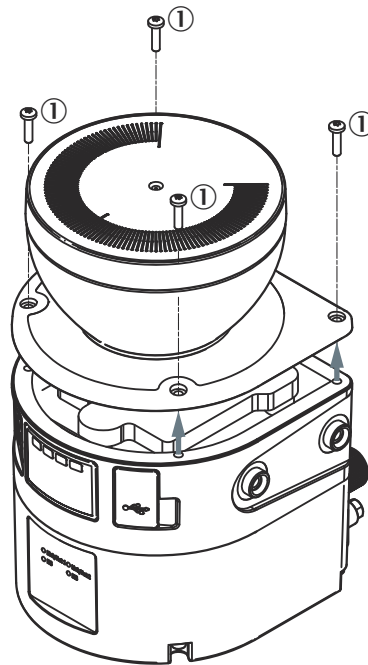

Figure 75: Fixing screws for the optics cover
13. Screw in new fixing screws, see figure 75, page 128.